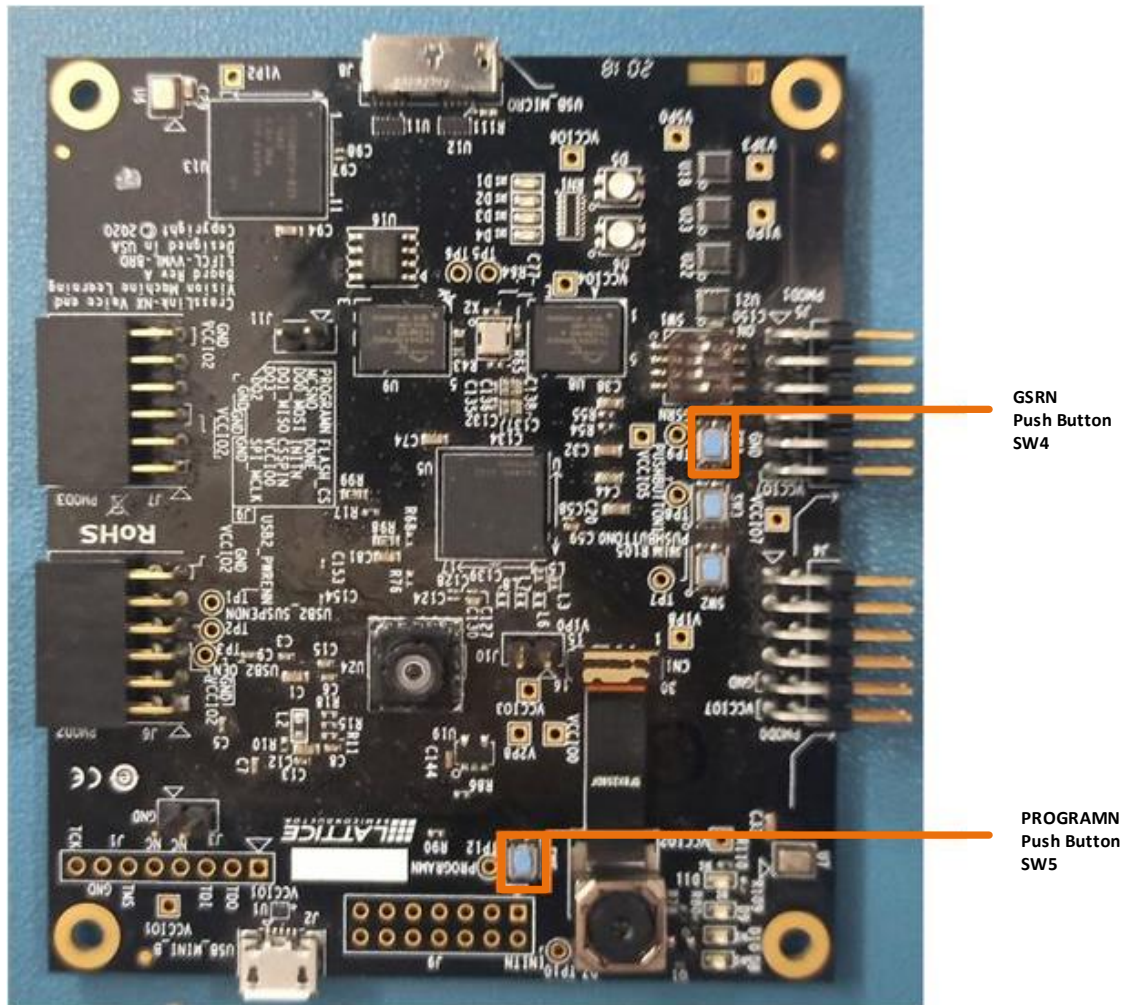

Figure 4.6. CrossLink-NX Voice and Vision Machine Learning (Rev B) Flashing Switch – SW5 Push Button
5. Press the **SW5** push button switch before clicking **Program** button as shown in Figure 4.6. Hold it until you see the *Successful message* in the Radiant log window.